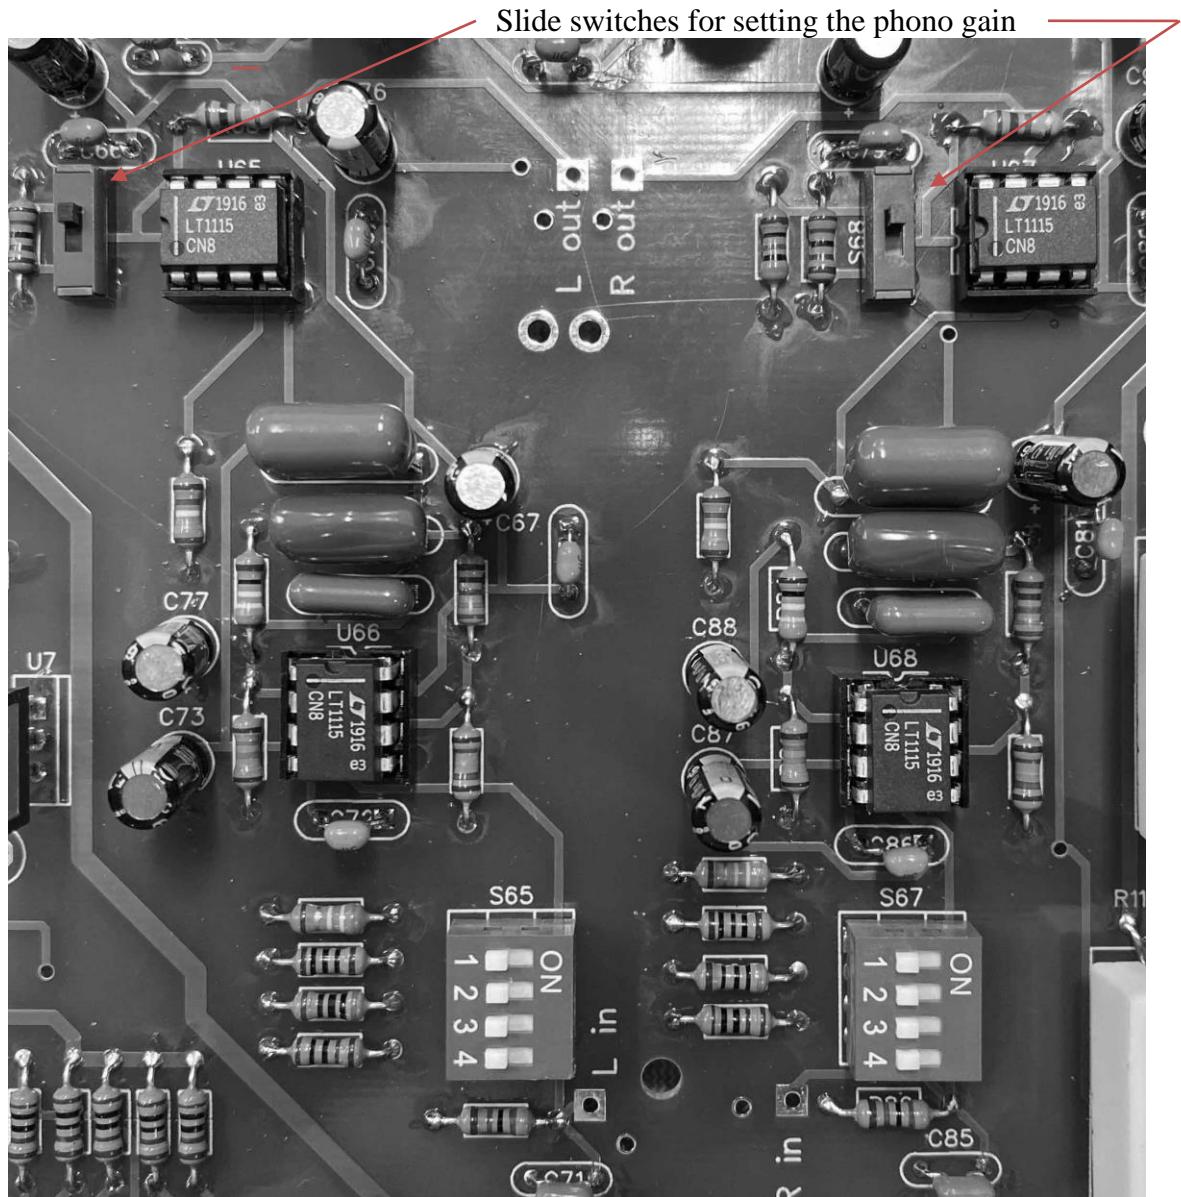

Figure 1. Phono preamplifier section
**Resistive loading** – There are two sets of DIP switches (S65 and S67) for setting the resistive loading (one per channel). The four switches are labeled A,B,C and D. Figure 1 shows all switches in the off position (47K ohms). The loading options are provided below in Table 1.
**Setting the cartridge loading** – The cartridge loading DIP switches are located towards the left hand side of the main circuit board (figure 1). It is important to point out that the cartridge manufacturers recommended loading should be considered as a starting point and not an absolute. Systems and turntable setups vary significantly and if you want to get the most out of your analog setup, take the time to find the settings that sound best in your system
**Setting the phono gain** - The two red slide switches are used to set the gain and are located towards the left hand side of the main circuit board (Figure 1). If the switches are placed in the “mc” direction (towards the rear and as shown) 60 dB of gain is provided which is best for cartridges of 0.4mV and up. You can use a lower output cartridge but you may not get sufficient volume. When the switches are placed in the “mm” position (towards the front) the phono provides 44 dB of gain which is suitable for moving magnet (MM) and high output moving coil (MC) cartridges. A setting of 60 dB gain and 47K loading is shown in Figure 1.